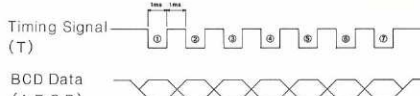

Fig. 1 Timing chart (negative logic)
One set of BCD data consists of 7 data blocks (labelled ① to ⑦ in Fig. 1). Data blocks are output in the order of block numbers. All output lines are kept high after the last block has been output, until the next set of data is output. Terminal A outputs the least significant bit (2⁰) and terminal D the most significant bit (2³).